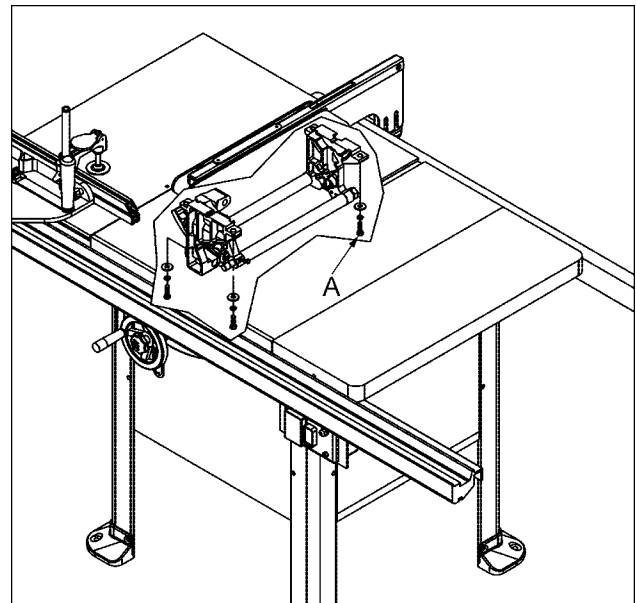

Fig. 30
6. If they are not the same, loosen four hex head bolts (A, Fig. 30) that hold the trunnions to the table. Two are shown in Figure 30.